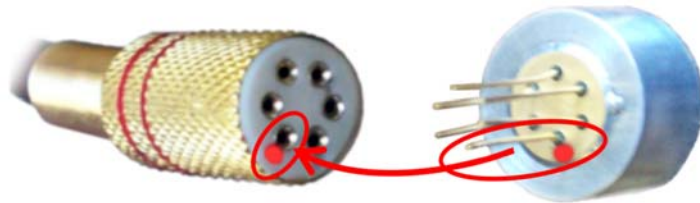

Fig.2. Observance of polarity during the connection between the PD and the PD connector (1).
1. Please take a PD with a cooler. Carefully combine its wires with pins of connector “PD” (1) tightly till fixation (fig.2).
Note! Marked with the red point pin of connector “PD” must be connected with the appropriate red wire of the PD (fig.2). In the case of wrong junction the PD can be damaged.